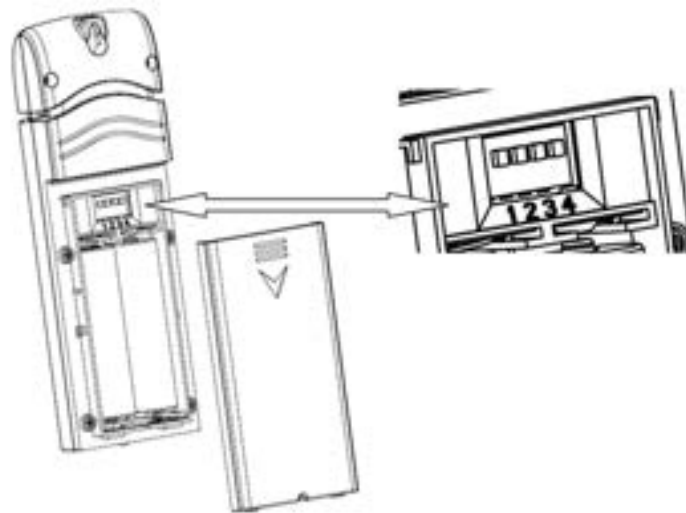

Figure 2
1. Remove the battery door on the back of the transmitter(s) by sliding down the battery door, as shown in Figure 2.